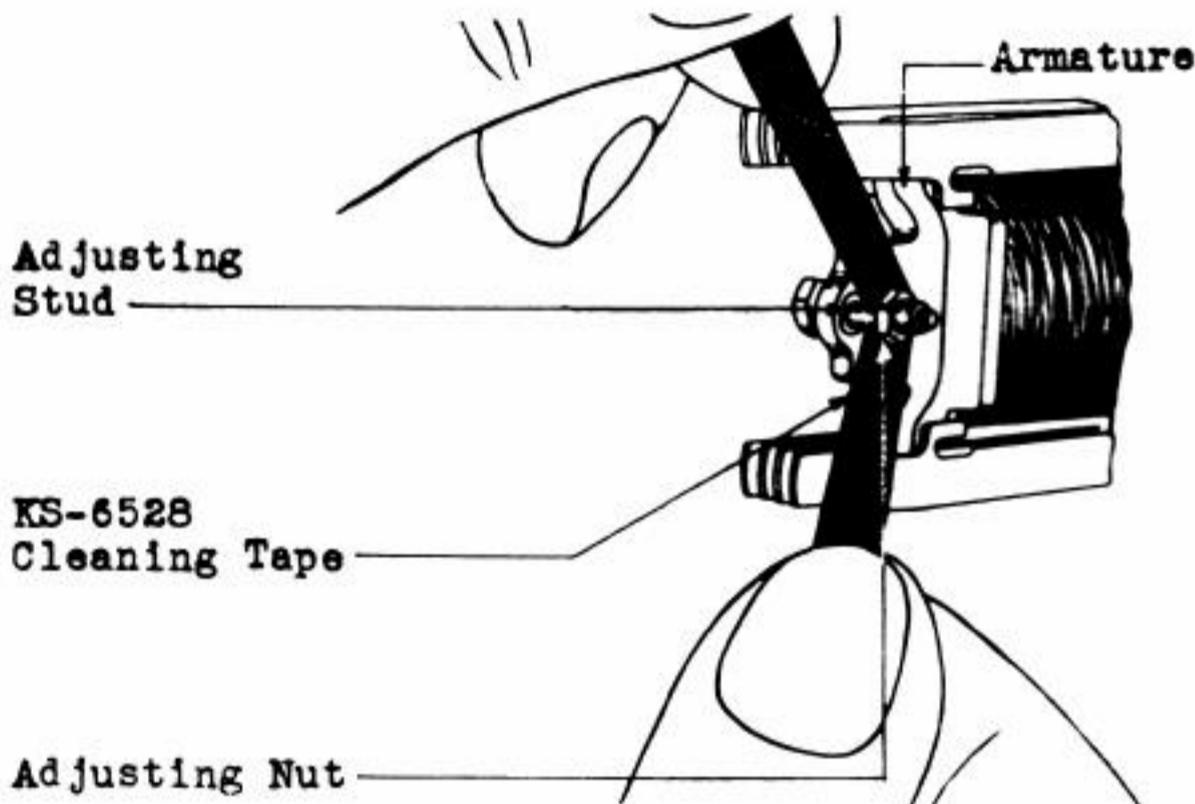

Fig. 32 - Method of Cleaning Adjusting Nut and Stud on A, E, F, H, R, T and AB Type Relays
6.12 Clean the armature and adjusting nut by passing a piece of KS-6528 cleaning tape back and forth between the armature and the adjusting nut around the adjusting stud, thereby removing whatever dirt there may be on the back of the armature, the adjusting nut and the adjusting stud. See Fig. 32.